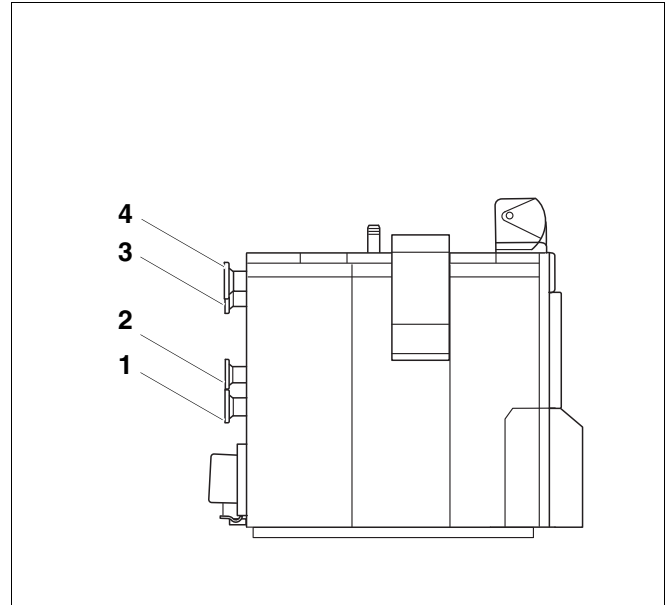

Fig. 24 Logano plus SB735 Gas boiler
- Connect the heating system flow to the boiler flow connection (Fig. 24, [4]).
CAUTION!	<p>SYSTEM DAMAGE</p> <p>by connecting incorrect components to the flow safety line!</p> <ul style="list-style-type: none"> ● Never connect a DHW cylinder or other heating circuit to the flow safety line (Fig. 24, [3], page 30).